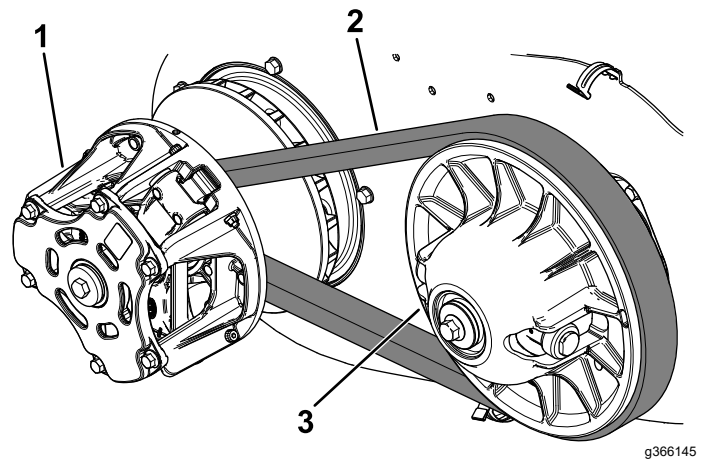

Figure 125
6. Rotate and inspect the belt (Figure 125) for signs of excessive wear or damage.
7. Using compressed air, clean the clutches thoroughly of all debris (Figure 125).
6. Pull up on the top of the belt to spread out the secondary clutch, then rotate and route the belt over the secondary clutch (Figure 125).
7. Remove the belt from the primary clutch (Figure 125).
8. Align the new belt over the primary clutch (Figure 125).
9. Rotate and route the belt over the secondary clutch (Figure 125).